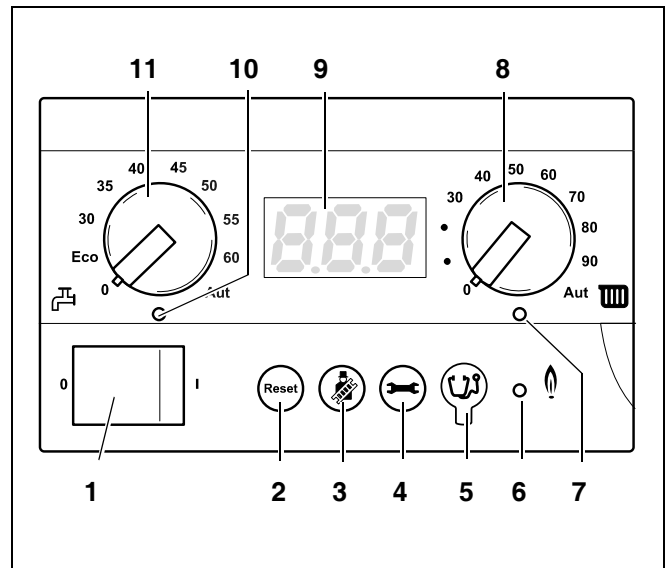

fig. 5 BC10 basic controller
The "Chimney sweep" button (fig. 5, **item 3**) is used to put the boiler into manual operation mode, e.g. if the heating system control (e.g. room controller) is defective.
The "Service" button (fig. 5, **item 4**) is used to display the current CH (boiler) flow temperature, the current working pressure etc. Also see section 6.1.1, page 17.
The heating engineer can connect a Service Tool here (fig. 5, **item 5**) for diagnostic purposes when servicing.
- Limit the maximum CH (boiler) flow temperature using the "CH (boiler) flow temperature" dial (fig. 5, **item 8**) to the permissible flow temperature of the floor heating circuit (usually maximum 40 °C).